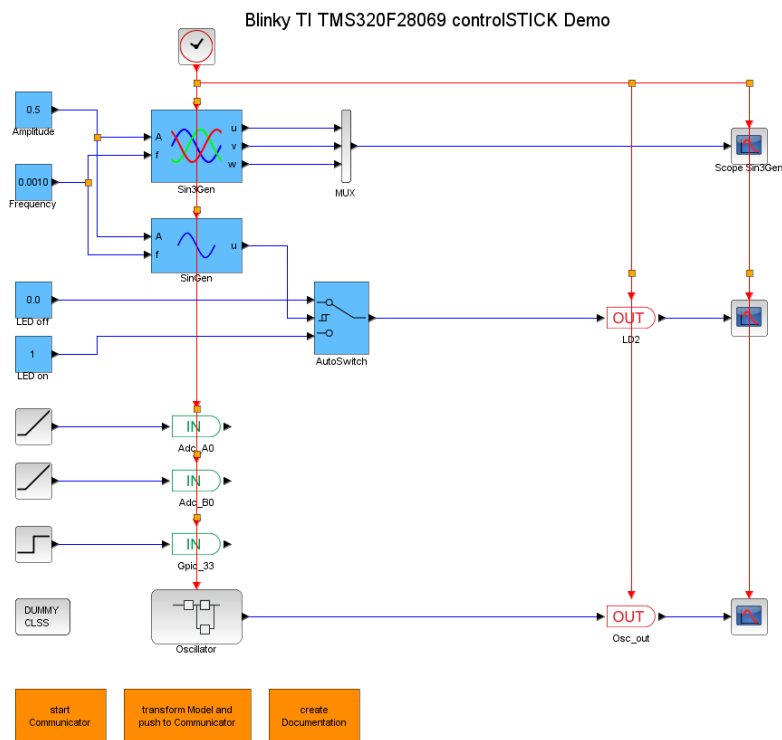

Figure 16: *Blinky* demo application in *Scilab/Xcos*
2. Double click on **DemoApplication.zcos**. The example project contains a few blocks used to demonstrate the basic function of X2C (see Figure 16). The *Inport* and *Outport* blocks define the interface between the generated X2C code and the peripheral functions (e.g. ADC or GPIO Pins) on the target. For details about each block function read *X2Copen.Doc.pdf* in the documentation folder of the X2C directory.